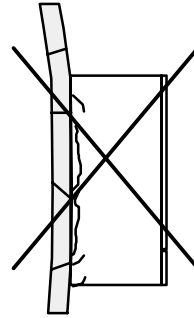

fig. 3.2
- The boiler must be attached to a strong wall (fig. 3.2).